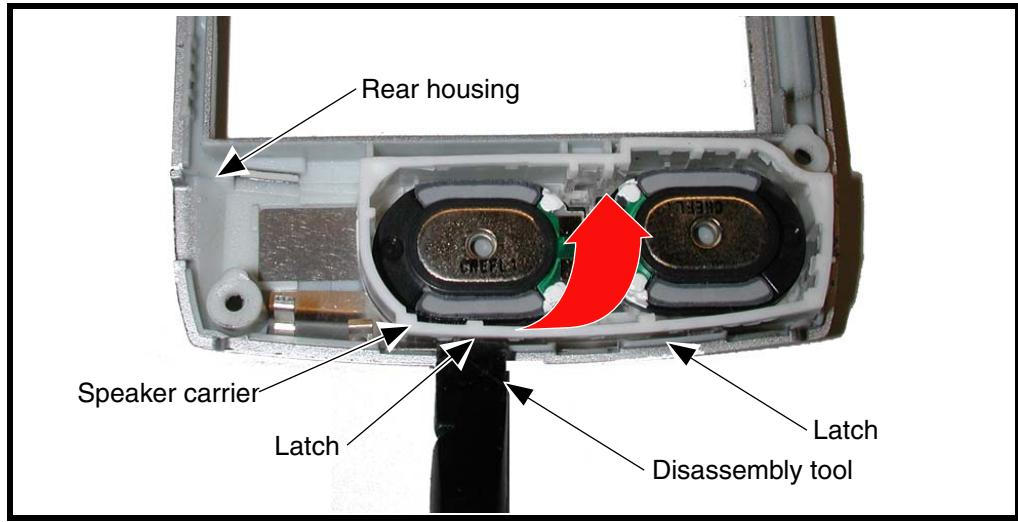

Figure 14. Removing the Speaker Carrier
3. Lift the speaker carrier up and out of the rear housing (see Figure 14).